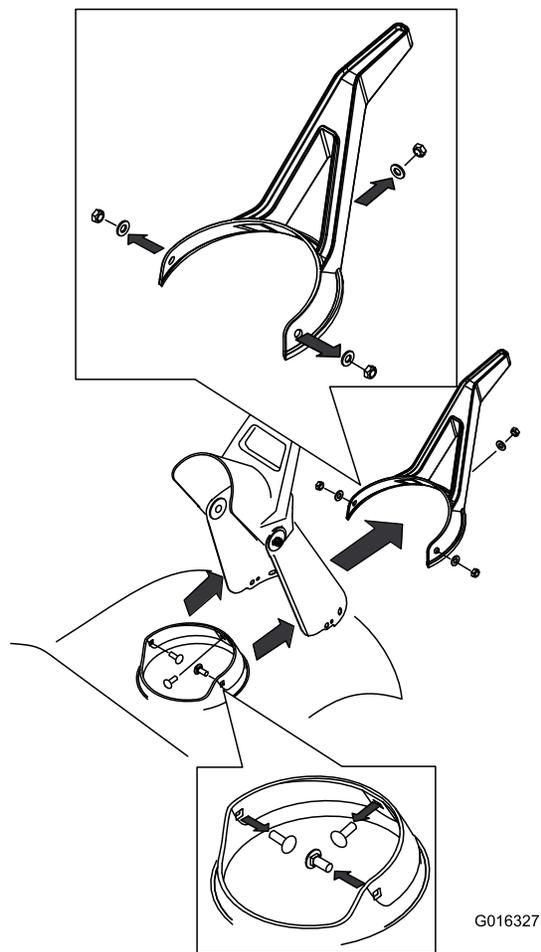

Figure 32
3. Remove the discharge chute by removing the three screws holding the chute, and the screws holding the chute seal (Figure 32).